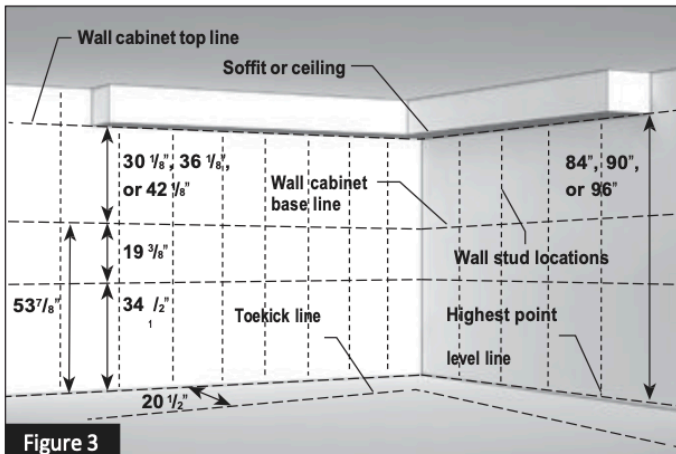

Figure 3
- 1.4 Now measure up from the wall cabinet base line the same distance as the height of your cabinets (30 1/8", 36 1/8" or 42 1/8"). This will be the top line for the wall cabinets. Any non-standard height wall cabinets need to line up with this top line as well. (Figure 3)